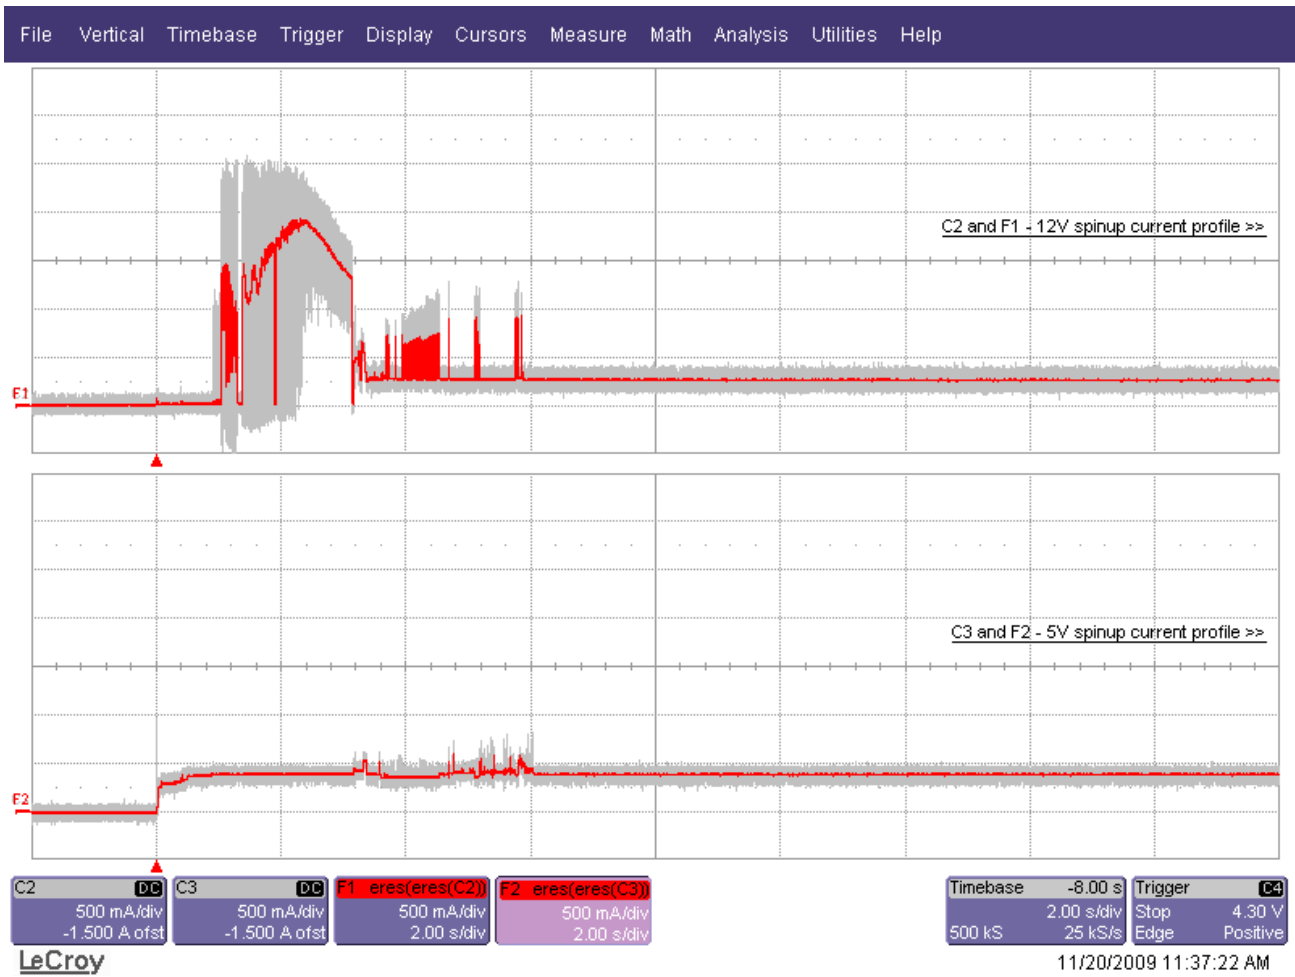

Figure 3. ST3500414SS & ST3500415SS model current profiles
- [5] See +12V current profile in Figure 3.